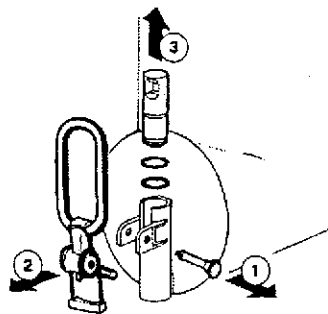

figure 12
3. Assemble the faucet by reversing the disassembly steps (see figure 12)